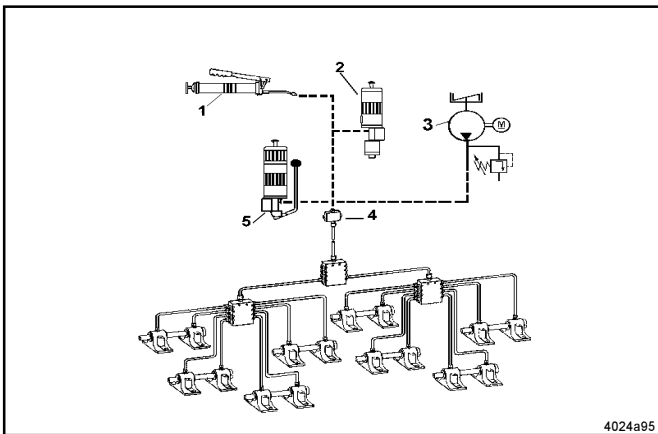

Fig. 5 - Possible pump connections
- When they are used in connection with hand-operated pumps, pneumatic or electric pumps the progressive metering devices are a simple and low-cost centralized lubrication system. See Fig. 5.